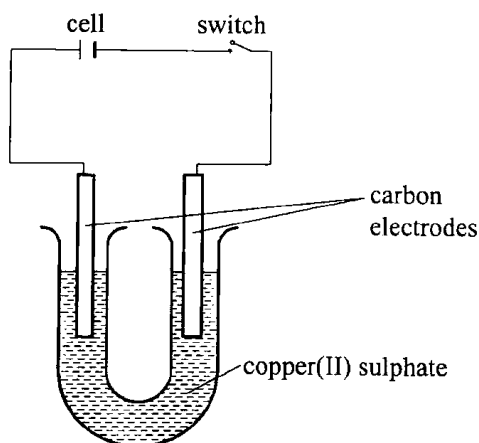

Figure 1
- (b) Copper (II) sulphate solution was electrolysed using the set up in **Figure 1**.